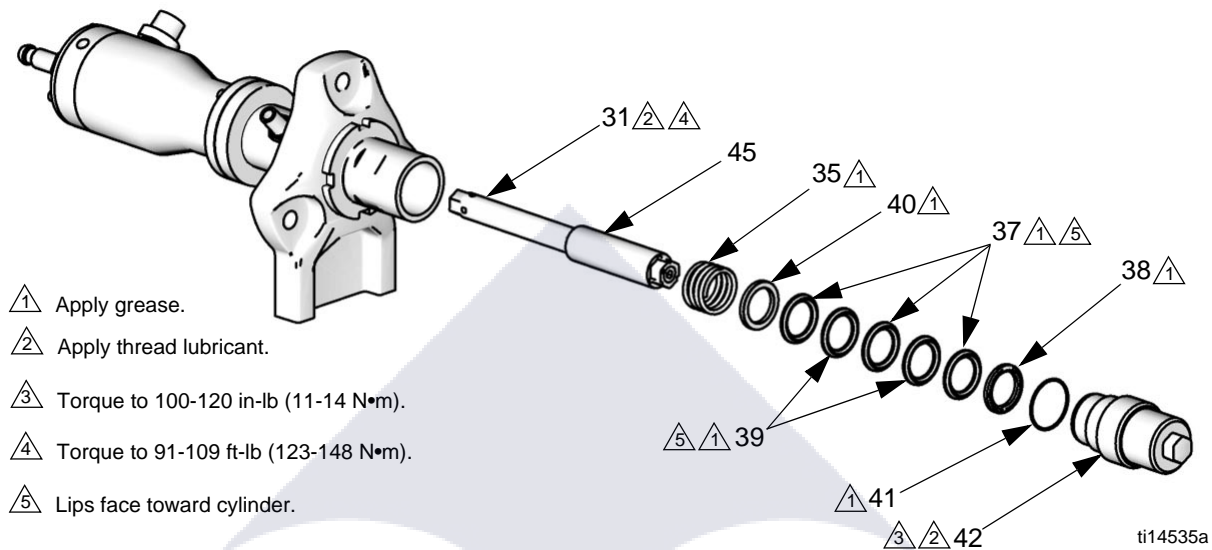

FIG. 14. Piston v-packings
5. Pull the piston/rod assembly out of the bottom of the cylinder (27).
6. **V-Packing Models:** Remove the piston packings (37, 39), glands (38, 40), and spring (35). See FIG. 14, page 16.